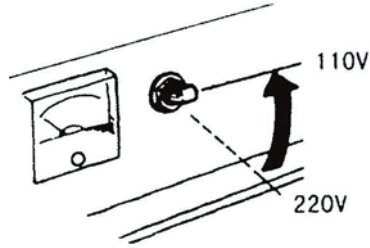

Fig. 33
5.5.4 Turn on the AC breaker (Figure 33)